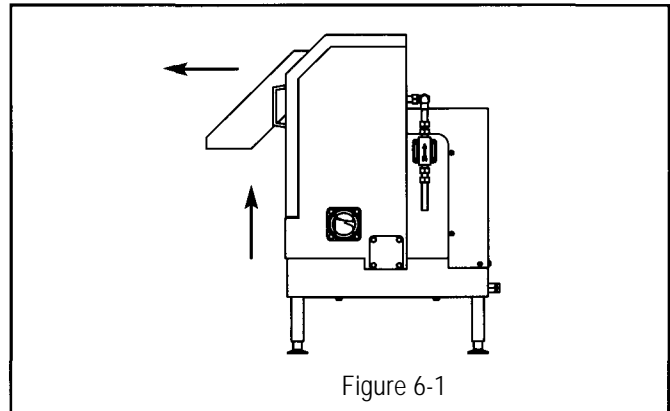

Figure 6-1
2. Holding both handles, remove discharge chute by tilting it upward (see figure 6-1).